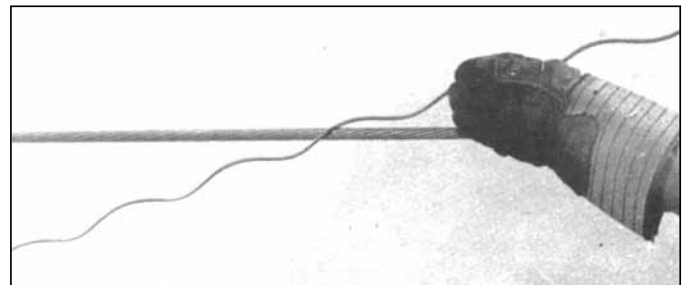

Figure 2
- 2.02** Apply the factory-marked centerline of the first FIBERLIGN Suspension Structural Reinforcing Rod to the center of the cable. Wrap the first rod around the cable (Fig. 2).